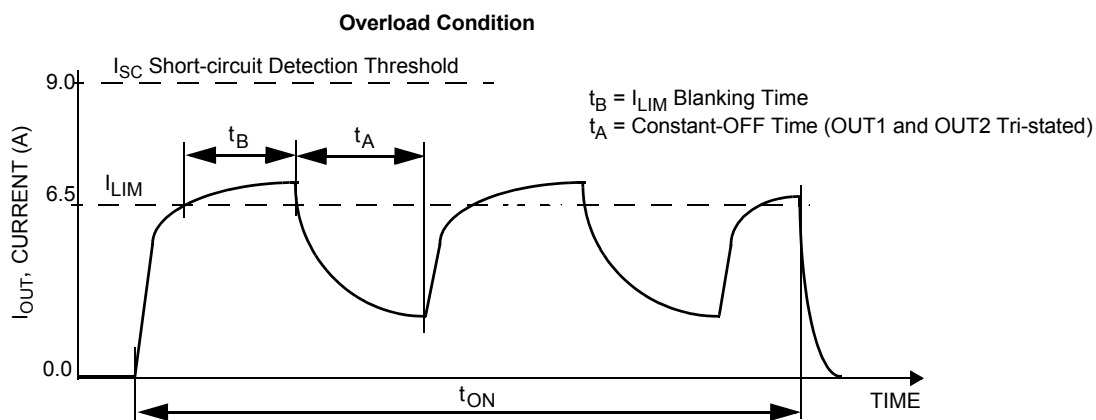
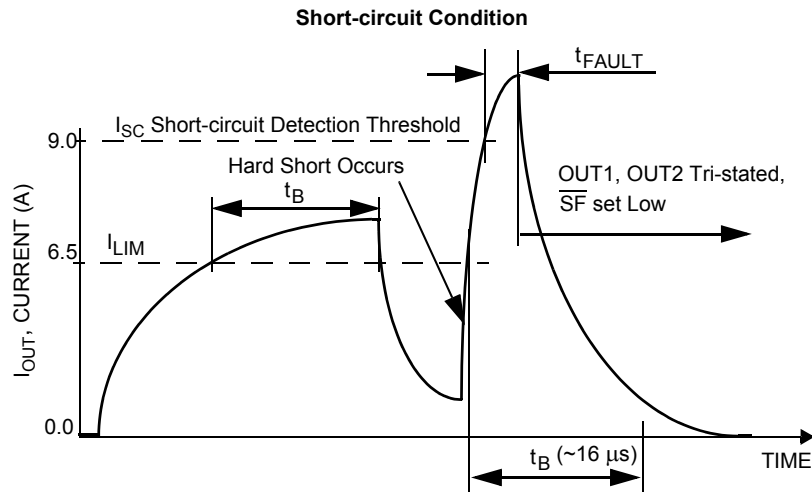
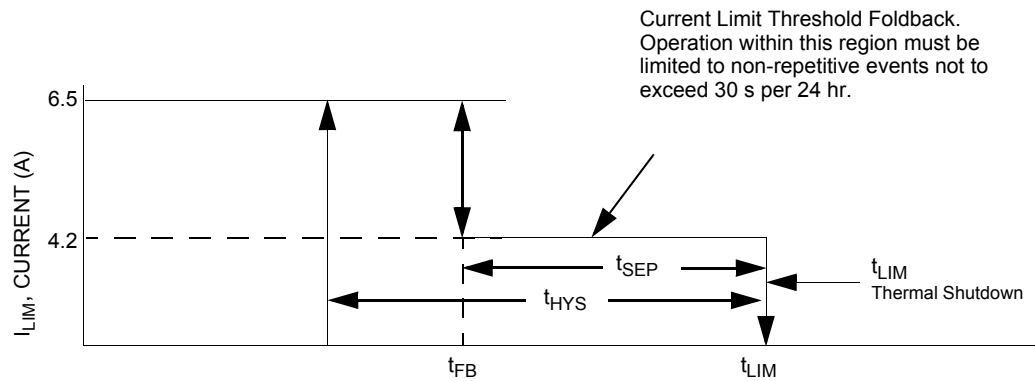

Figure 7. Current Limit Blanking Time and Constant-OFF Time
Figure 8. Short-circuit Detection Turn-OFF Time t_{FAULT}
Figure 9. Output Current Limiting Foldback Region
28. Load currents ramping up to the current regulation threshold become limited at the I_{LIM} value (see Figure 7). The short-circuit currents possess a di/dt which ramps up to the I_{SCH} or I_{SCL} threshold during the I_{LIM} blanking time, registering as a short-circuit event detection and causing the shutdown circuitry to force the output into an immediate tri-state latch-OFF (see Figure 8). Operation in Current Limit mode may cause junction temperatures to rise. Junction temperatures above $\sim 160\text{ }^{\circ}\text{C}$ causes the output current limit threshold to “fold back”, or decrease, until $\sim 175\text{ }^{\circ}\text{C}$ is reached, after which the t_{LIM} thermal latch-OFF occurs. Permissible operation within this fold back region is limited to non-repetitive transient events of duration not to exceed 30 seconds (see Figure 9).